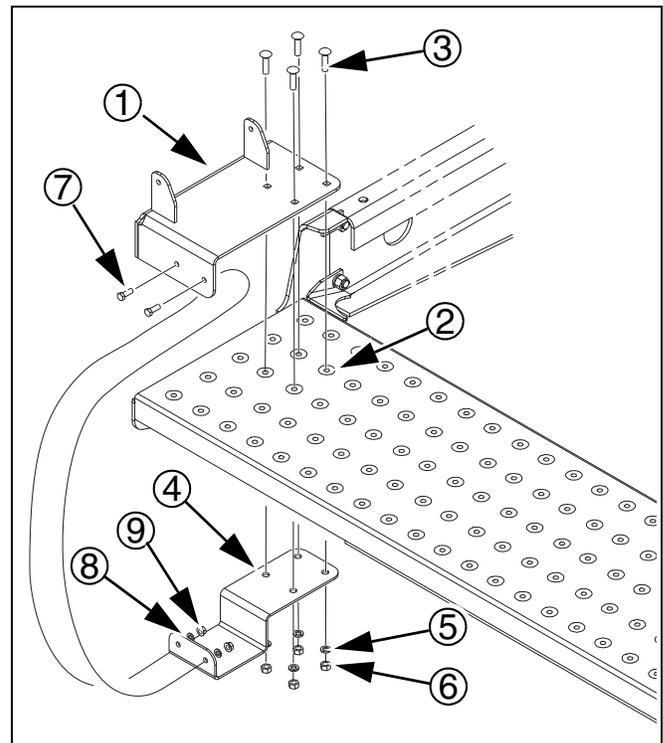
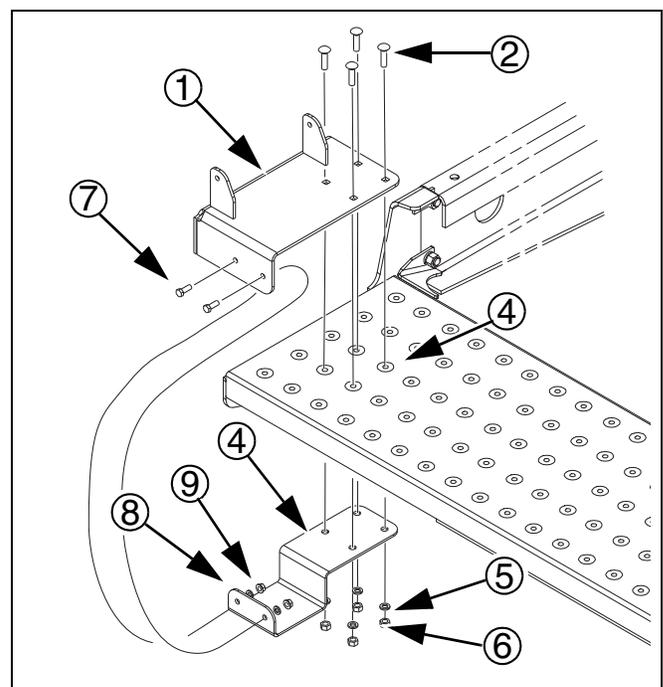

Figure 12
Figure 13
Refer to Figure 12 or Figure 13
- For drills without the small seeds option, refer to Figure 12 as a reference.
- For drills with the small seeds option, refer to Figure 13 as a reference.